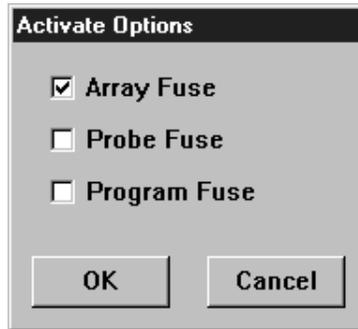
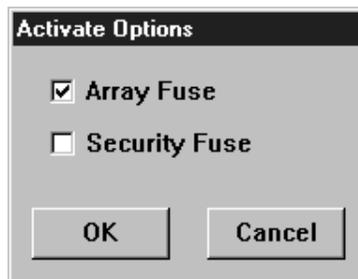

Figure 1-5 • Activate Options for RH1020 and A1020B Devices
Figure 1-6 • Activate Options for RH1280, A1280A, A1460A, and A14100A Devices
4. Program your device. You can program Array fuses only, the Security fuse only, or both Array fuses and the Security fuse. For RH1020 and A1020B devices, APSW displays the dialog box shown in Figure 1-5 on page 20. For RH1280, A1280A, A1460A, and A14100A devices, APSW displays the dialog box shown in Figure 1-6 on page 20. Choose the desired fuse programming options and click **OK**. Refer to the "Programming Security Fuses" section on page 21 for a detailed discussion about programming security fuses.